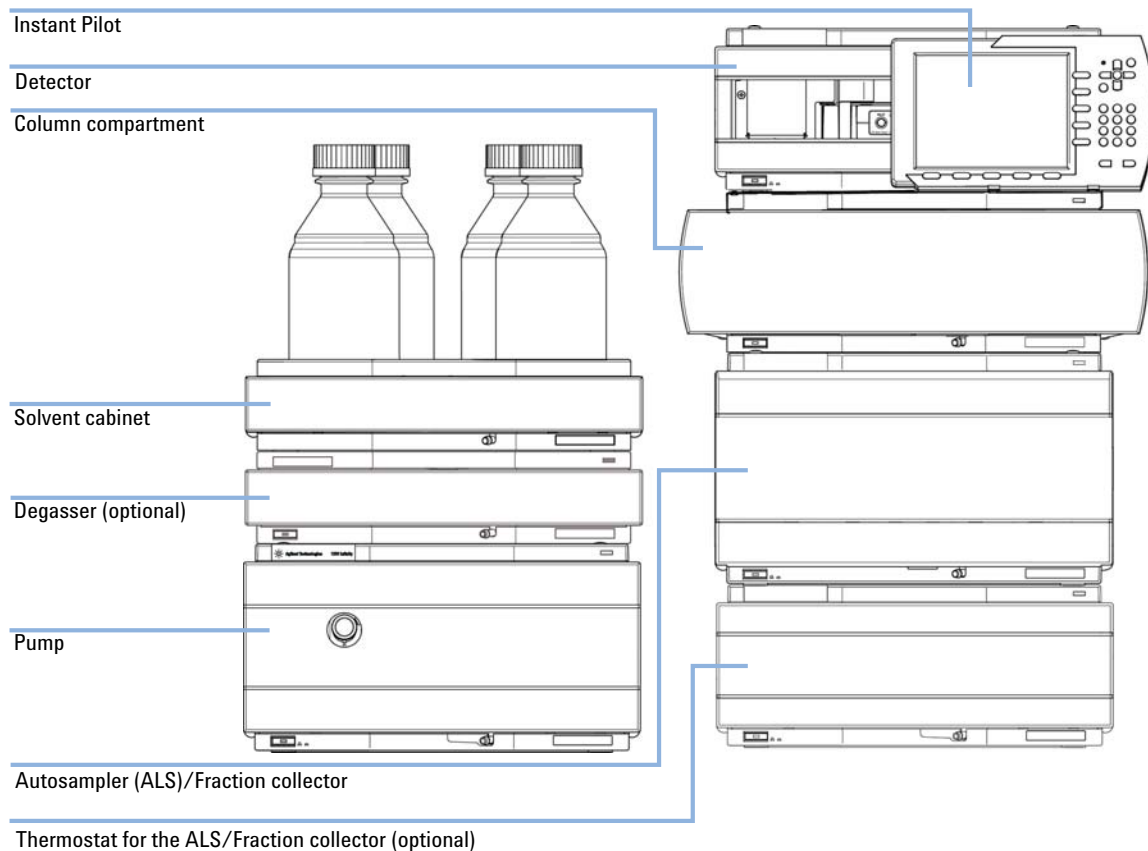
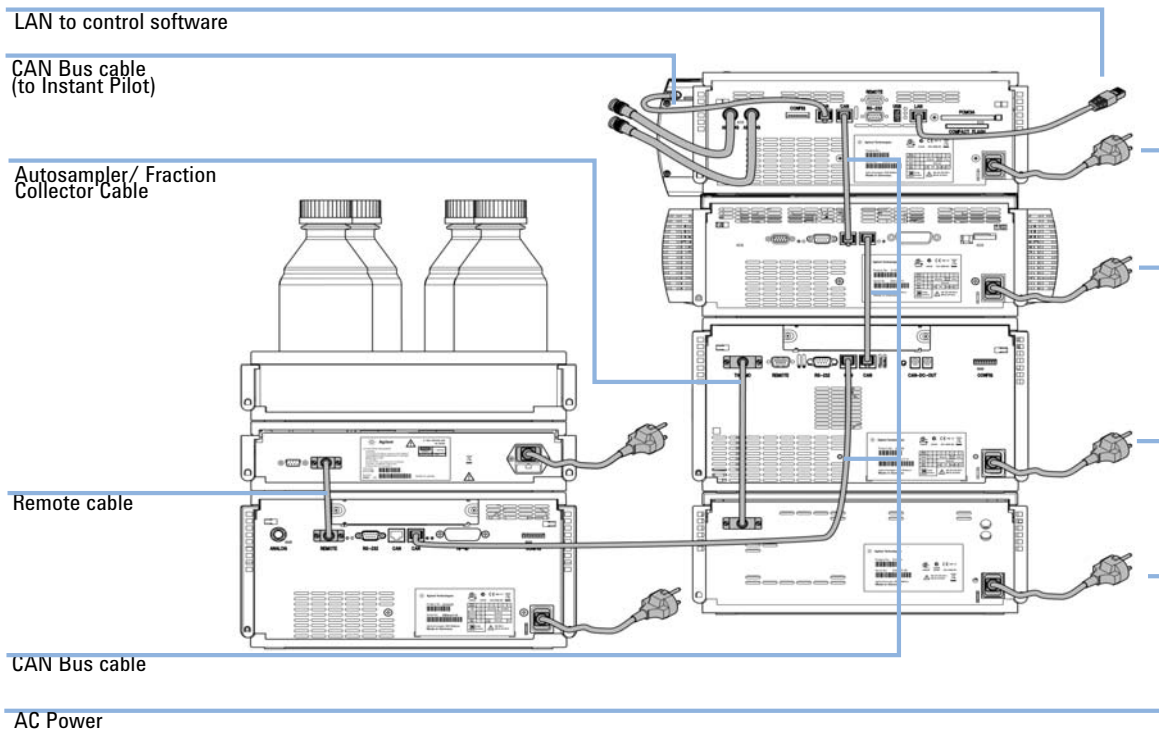
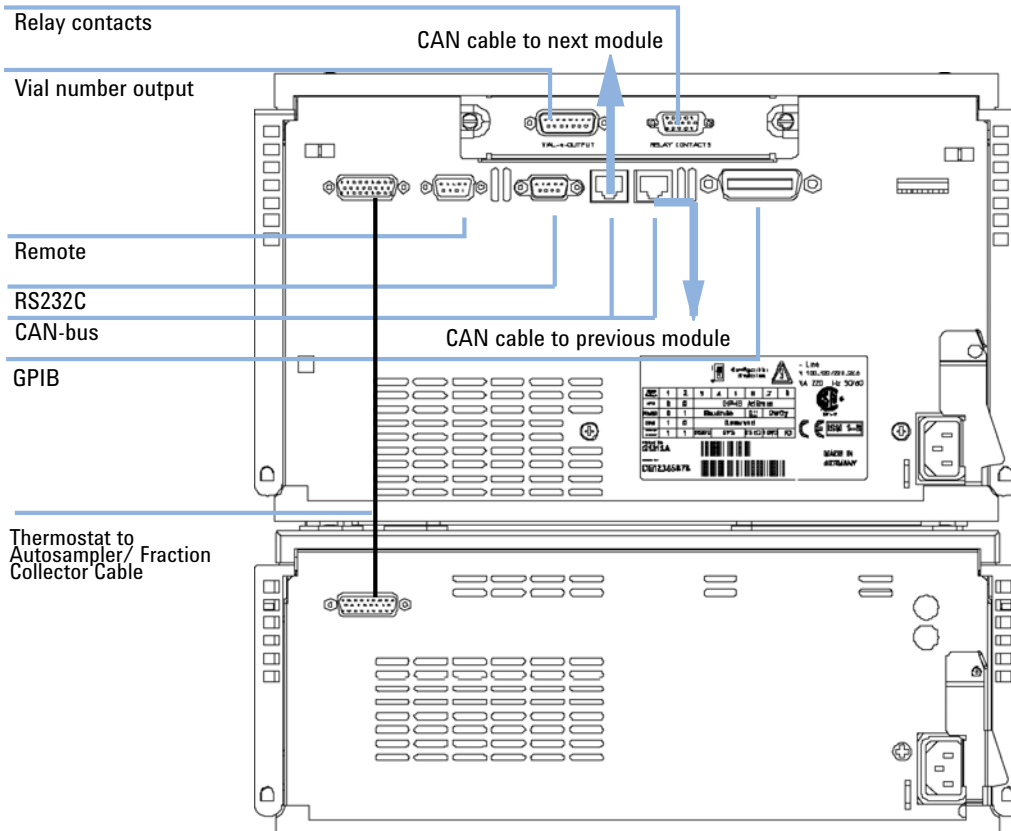

Figure 3 Recommended Stack Configuration (Front View)
Figure 4 Recommended Stack Configuration (Rear View)
Figure 9 Cable Connections.
If your autosampler/fraction collector is part of a system, you can ensure optimum performance by installing the autosampler/fraction collector in the stack in the position shown in Figure 3 on page 19 and Figure 4 on page 20. This configuration optimizes the system flow path, ensuring minimum delay volume. As the autosampler thermostat is very heavy, it should always be installed at the bottom of a stack.
- 5 Connect the CAN interface cables to other modules in the system (see Figure 4 on page 20 and Figure 9 on page 27).
- 6 If required, connect additional interface and control cables to the autosampler (see Figure 4 on page 20 and Figure 9 on page 27). Refer to the documentation of the Agilent 1200 Infinity Series Instant Pilot or ChemStation for LC for more information.
7 Connect additional cables as required (see Figure 9 on page 27).